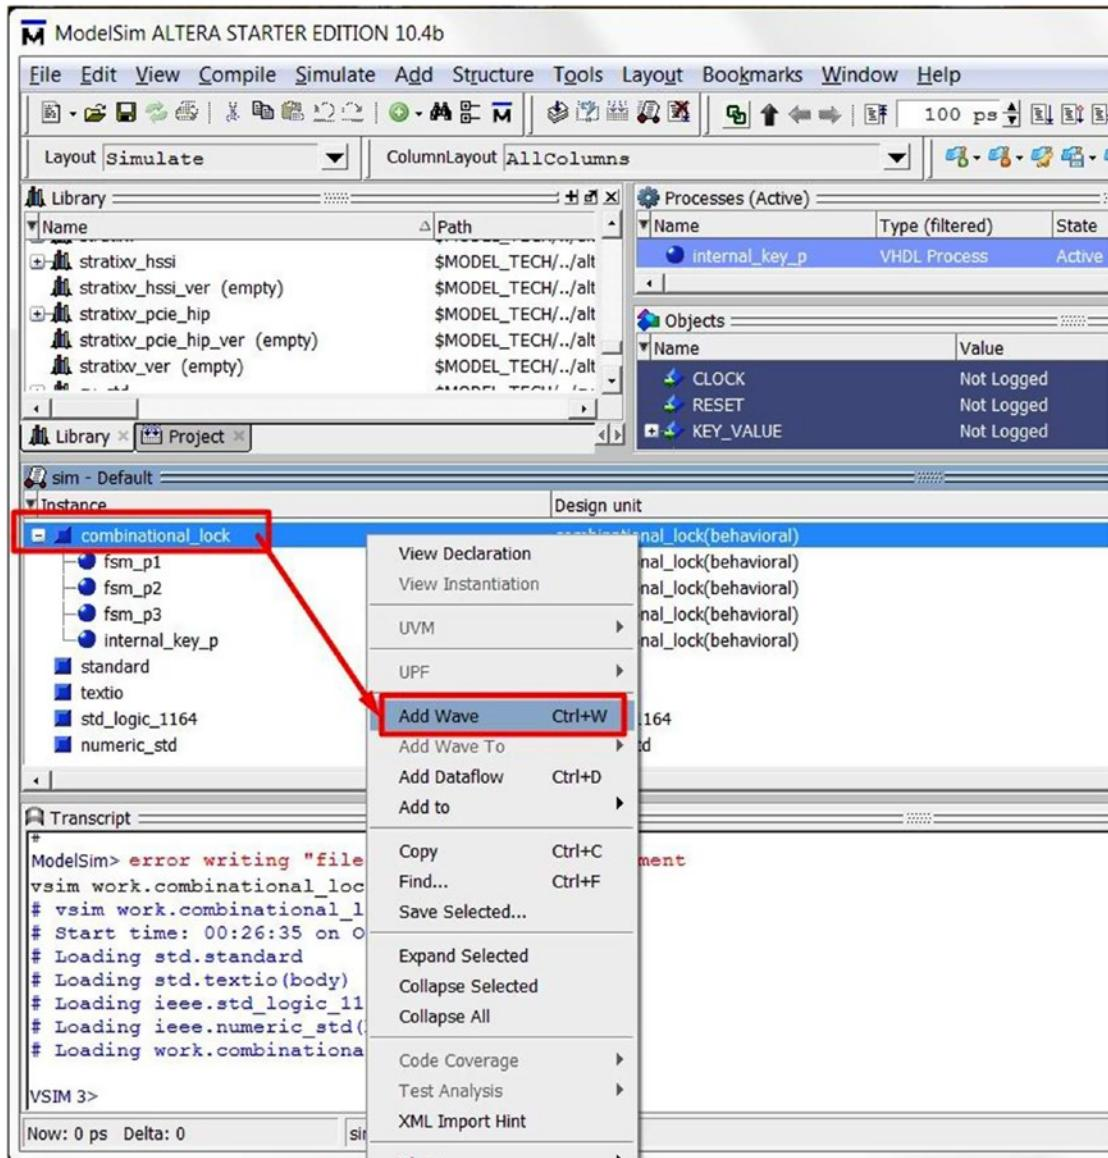
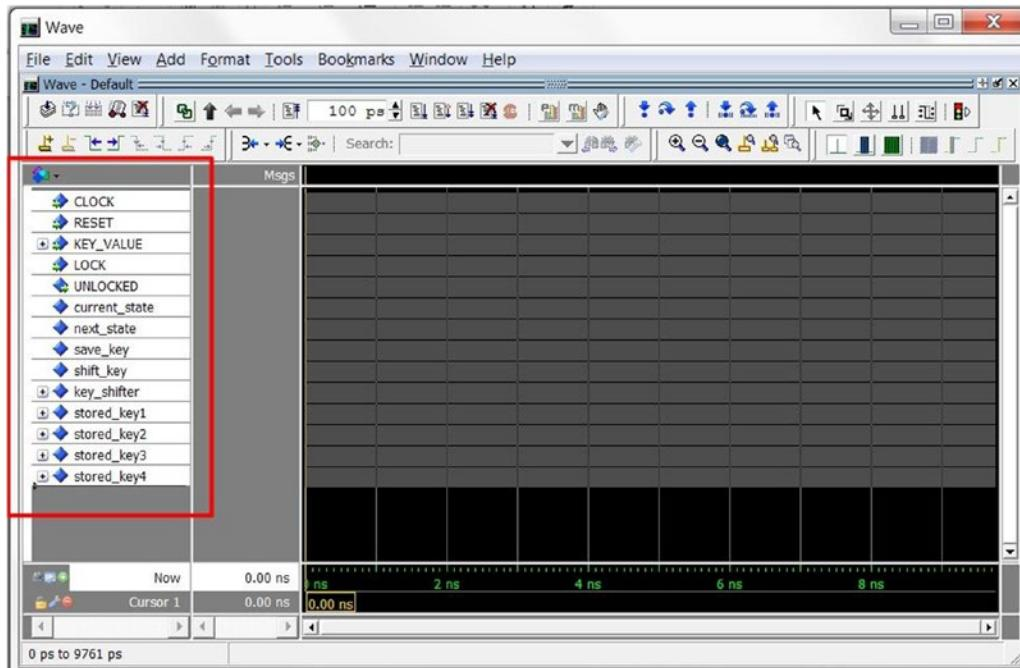

Figure 11-17. Add all of the signals to the wave window
Figure 11-18. Wave window with all the signals of combination lock design
5. Add all of the combinational_lock signals to the wave window by right-clicking the combinational lock in the Sim box in the ModelSim window (Figure 11-17) or run the following script in the Transcript window. The wave window will be updated as in Figure 11-18